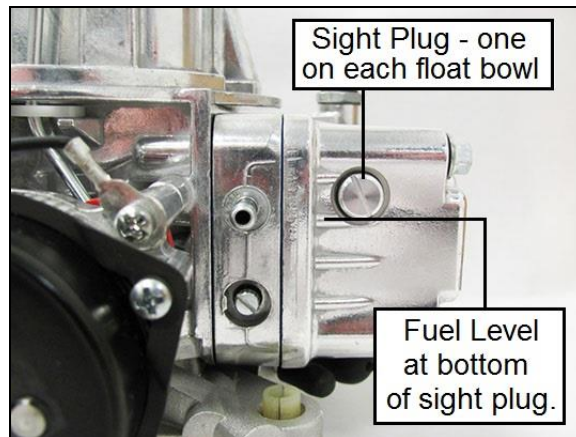

**Figure 8**
1. If the fast idle RPM is too low or too high for your preferences, SHUT DOWN THE ENGINE! Advance the throttle to wide-open, exposing the fast idle set screw below the choke housing (**Figure 8**).